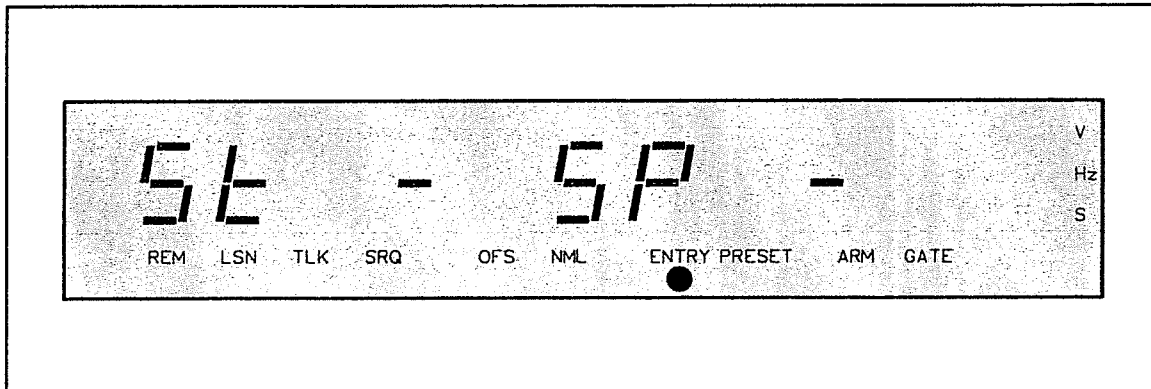
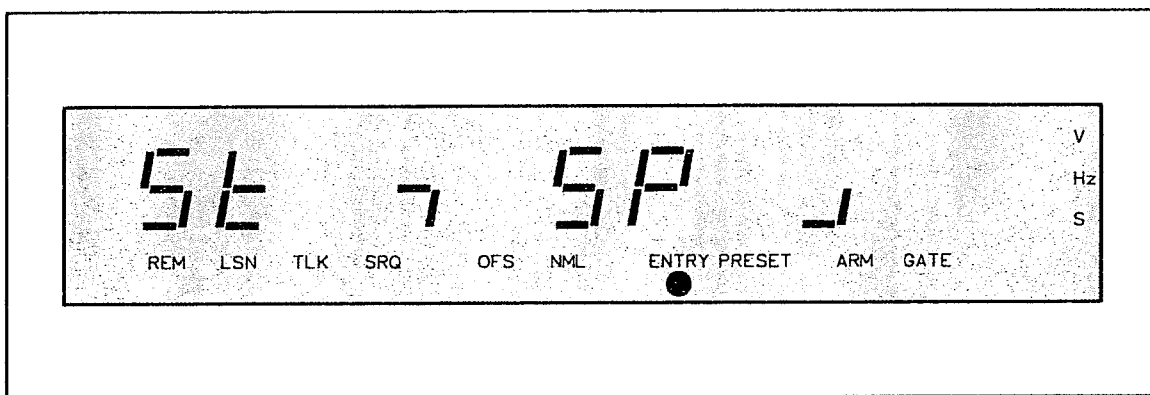

Figure 3-34. EXTERNAL ARM SELECT Entry Mode Display, Arming Off
Figure 3-35. EXTERNAL ARM SELECT Display, Arming States Selected
3-196. External arming can be used to specify the start and/or stop of a measurement, by a signal that is not directly involved in the measurement. When external arming is enabled, a signal must be connected to the ARM input connector to arm the gate to open and/or close. Pressing the EXT ARM SELECT key displays the arming status, shown in Figure 3-34, and allows the START ARM (open gate) and/or STOP ARM (close gate) states to be changed.
3-197. The arming status is represented as "St" (START ARM) and "SP" (STOP ARM). The states are defined by "—" (arming off), shown in Figure 3-34; and "┐" (arming set on negative slope), and "└" (arming set on positive slope) as shown Figure 3-35 slope). The channel A SLOPE key controls the START ARM, and the channel B SLOPE key controls the STOP ARM.
2. The counter displays, “St” for start arm, “SP” for stop arm, and the current start/stop arm states (see *Figure 3-35*).
3. The ENTRY light flashes, indicating the arming states may be changed (see *Figure 3-35*).
Figure 3-35 shows the EXT ARM SELECT entry mode display, with the START ARM set negative, and the STOP ARM set positive.